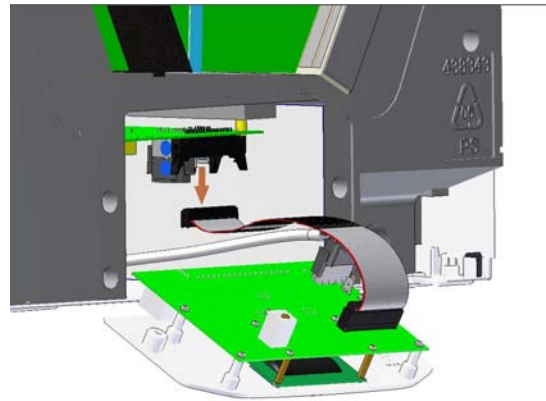

Figure 6: Disconnecting the Ribbon cable (Front of Unit)
4. Disconnect the ribbon cable (see *Figure 6*).